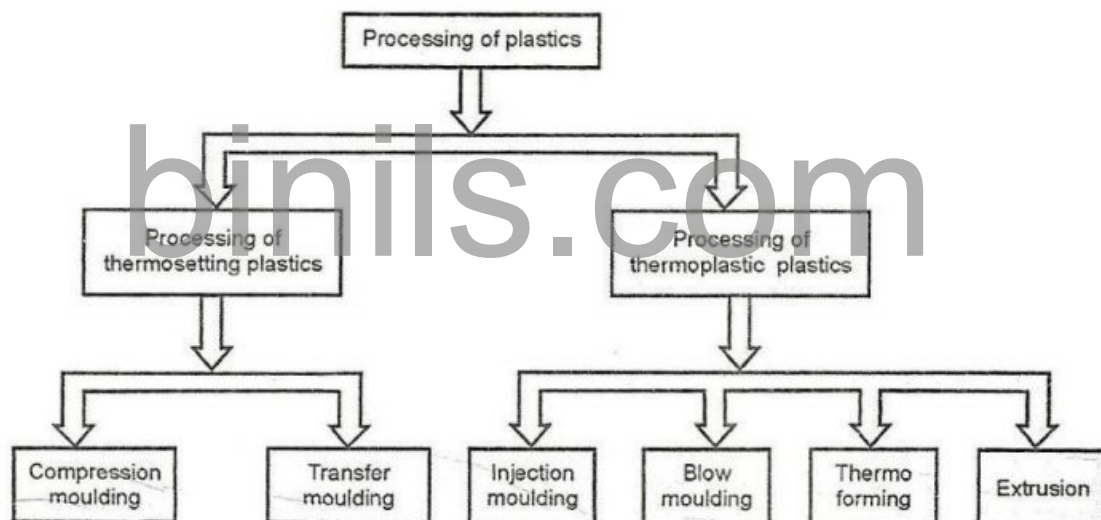

Figure 5.1 Classification of Processing of Plastics
- The processing of plastics can be grouped as follows (Refer figure.5.1).